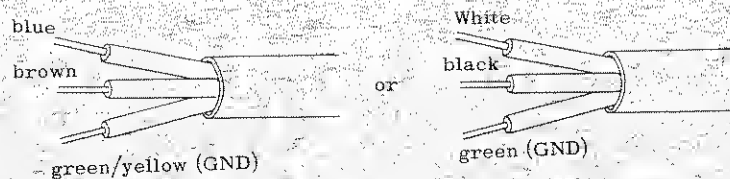

Fig. 1
- ☒ Power Cable: to 3-core cable (See Fig. 1 for the colors)